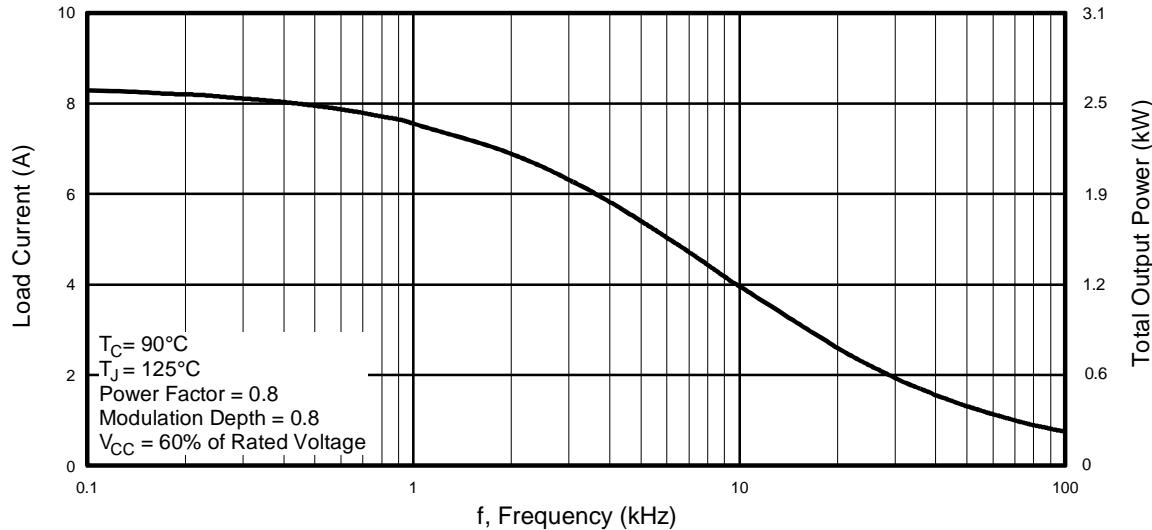

Fig. 1 - RMS Current and Output Power, Synthesized Sine Wave
- Optimized for medium operating frequency (1 to 10kHz) See Fig. 1 for Current vs. Frequency curve
Power Factor 0.8, Modulation Depth 80% (See Figure 1)